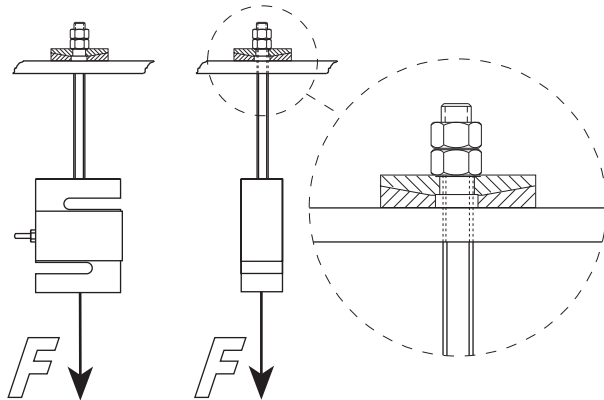

Figure 17-1.
Figure 17-1 illustrates the correct way to apply load to an S-beam load cell.
5. The extremities of the suspension should be attached to the structure and vessel in such a manner that they are free to move. At a minimum, use spherical washer set as illustrated in Figure 17-1.